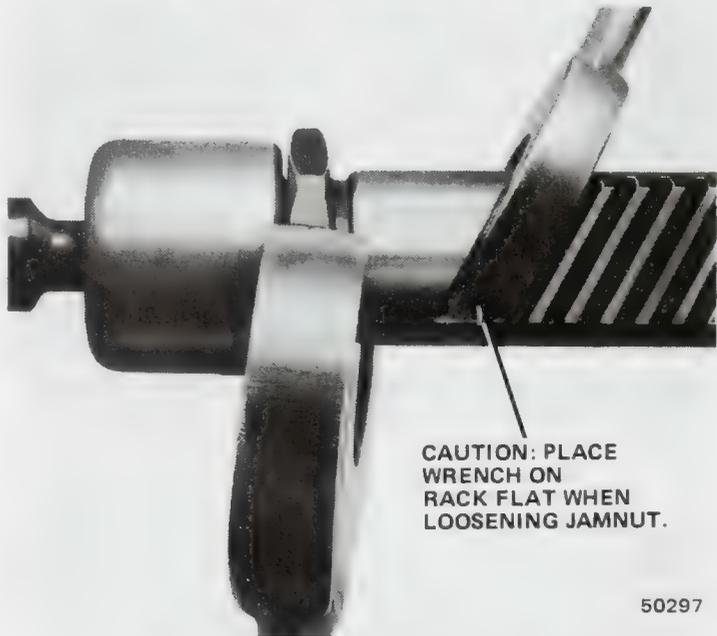

Fig. 2K-49 Loosening/Tightening Jamnut
(1) Raise and support front of car.
(2) Disconnect tie rod end connected to tube side of rack from steering arm using tool J-26951 (fig. 2K-48).
(3) Remove mounting clamp bolts.
(4) Remove clamps from boot at tube-end of gear and slide boot away from end of tube.